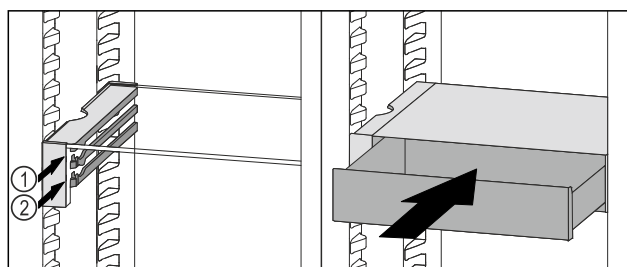

Fig. 214
- Place the VarioSafe drawer behind the stoppers on desired rib Fig. 214 (1) or Fig. 214 (2).